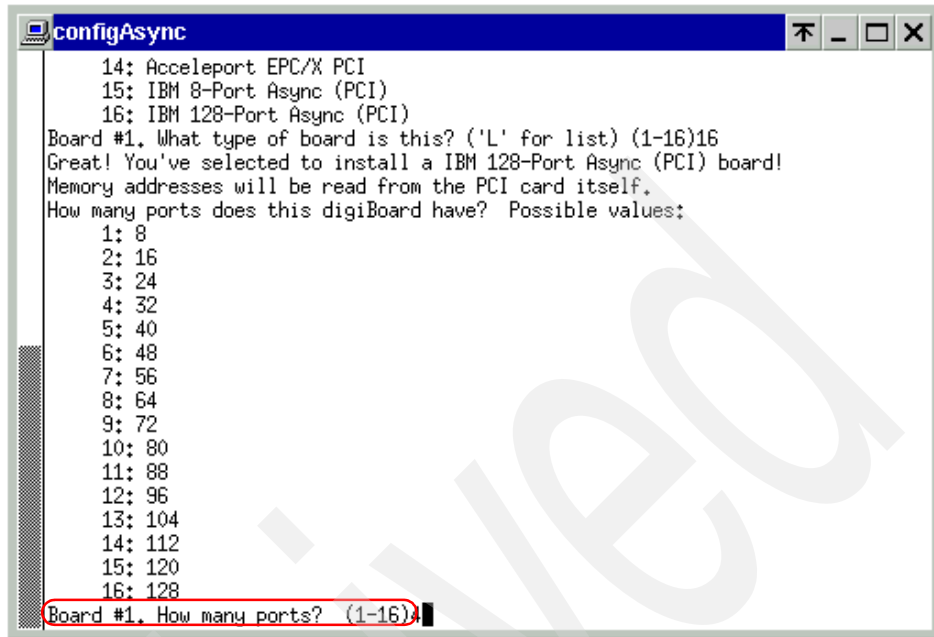

Figure A-5 Specify total number of ports
4. The window displays the following message, highlighted in Figure A-5 on page 302: